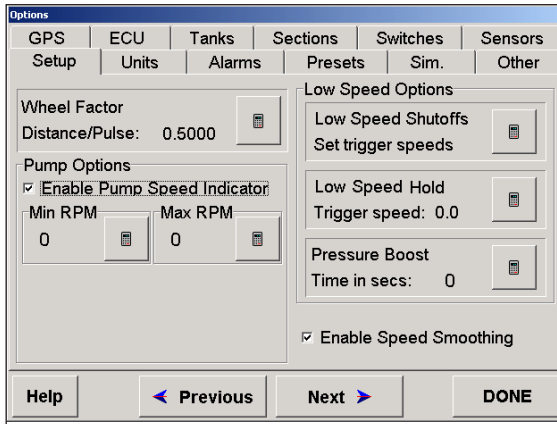

Figure 8-16. Options>Setup Page
1. Select the **calculator** icon in the *Wheel Factor* window (Figure 8-16).
3. Press **ENTER** to save changes and return to the *Setup* page (Figure 8-16 on page 8-46).
Selecting the **calculator** icon in the *Low Speed Shutoffs* window (Figure 8-16 on page 8-46) opens the *Low Speed Shutoffs* screen.
Select the **calculator** icon in the *Low Speed Hold* window (Figure 8-16 on page 8-46) to enter the value (in kph). Select **Enter** to save the value you entered and close the window.
Select the **calculator** icon in the *Pressure Boost* window (Figure 8-16 on page 8-46) and enter the value (normally 2-3 seconds).
Select **Enable Pump Speed Indicator** (Figure 8-16 on page 8-46) when a speed sensor is fitted to the pump to readout the RPM of the pump shaft.